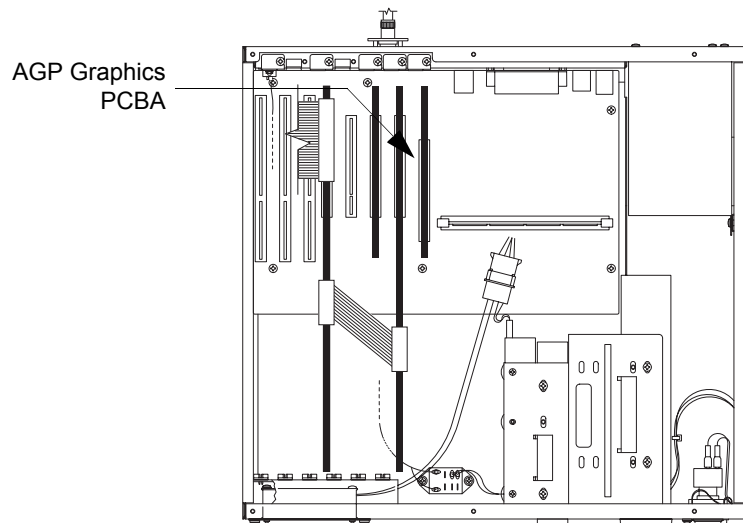

Figure 9-26 Location of the AGP Graphics PCBA
4. Note the orientation of all cables prior to their removal; see Figure 9-26.